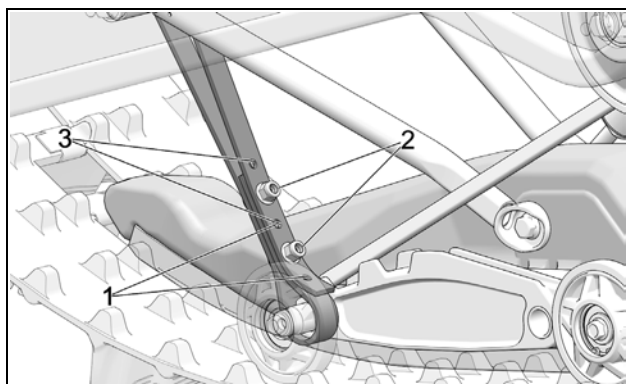

Figure 19
- The Limiter Strap has 3 adjustment settings: Figure 19.